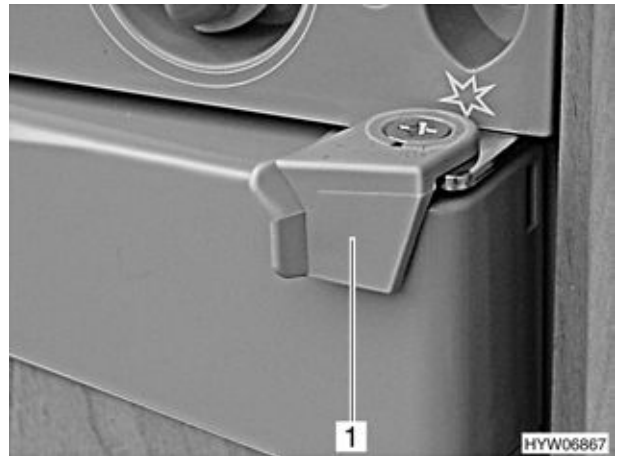

Fig. 149 Refrigerator door lock, closed (variant 1)
- Rotate lock (Fig. 149,1) towards the outside.